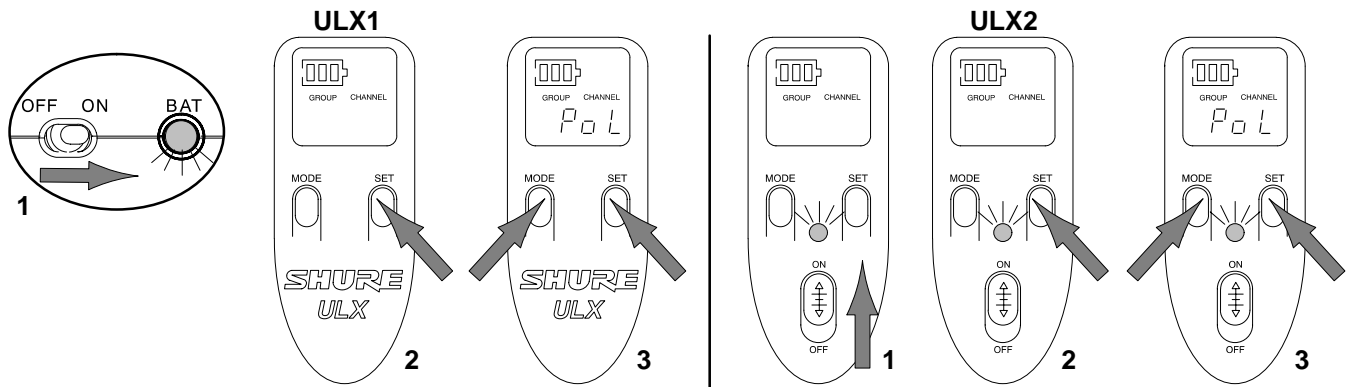

FIGURE 35
2. While holding down the SET button, press and hold the MODE button for four seconds. "Po L" will appear on the display. See Figure 35. This display indicates that the Power On/Off switch is locked. The transmitter will remain on, even when the power ON/OFF switch is moved to the OFF position.